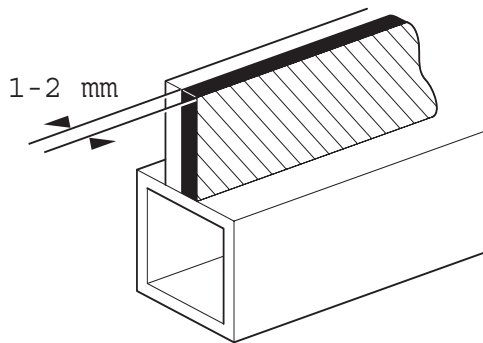

Fig 51.
- 5 If necessary, trim off the remaining old sealant to leave approximately 1 to 2 mm on the upright face of the cab frame aperture. → Fig 51. (B-53)